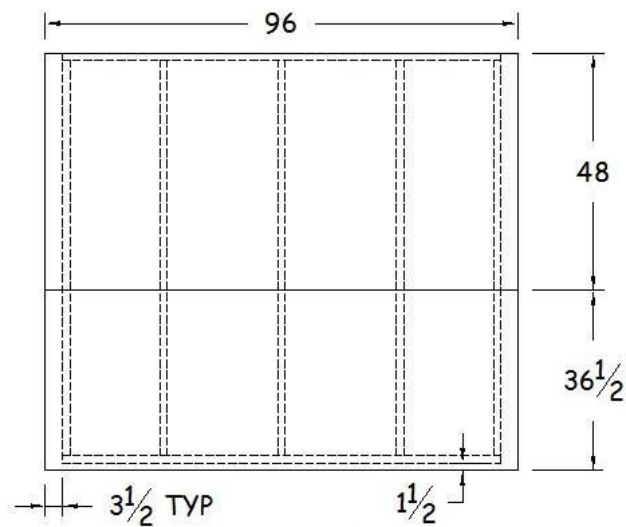

Figure 22-7. Back Wall Sheathing.
- c. Cut an additional piece of $\frac{1}{2}$ " OSB, approximately $36\frac{1}{2}$ " x 96", to fit below the upper section of OSB. This piece should fit tight to the upper OSB piece, overhang each side by $3\frac{1}{2}$ ", and overhang the bottom plate by $1\frac{1}{2}$ ". A scrap piece of 2x4 can be used as a gauge for the $3\frac{1}{2}$ " and $1\frac{1}{2}$ " overlap. Nail into all studs and the bottom plate with $\frac{2}{8}$ " collated nails every 8-12". See Figure 22-7.